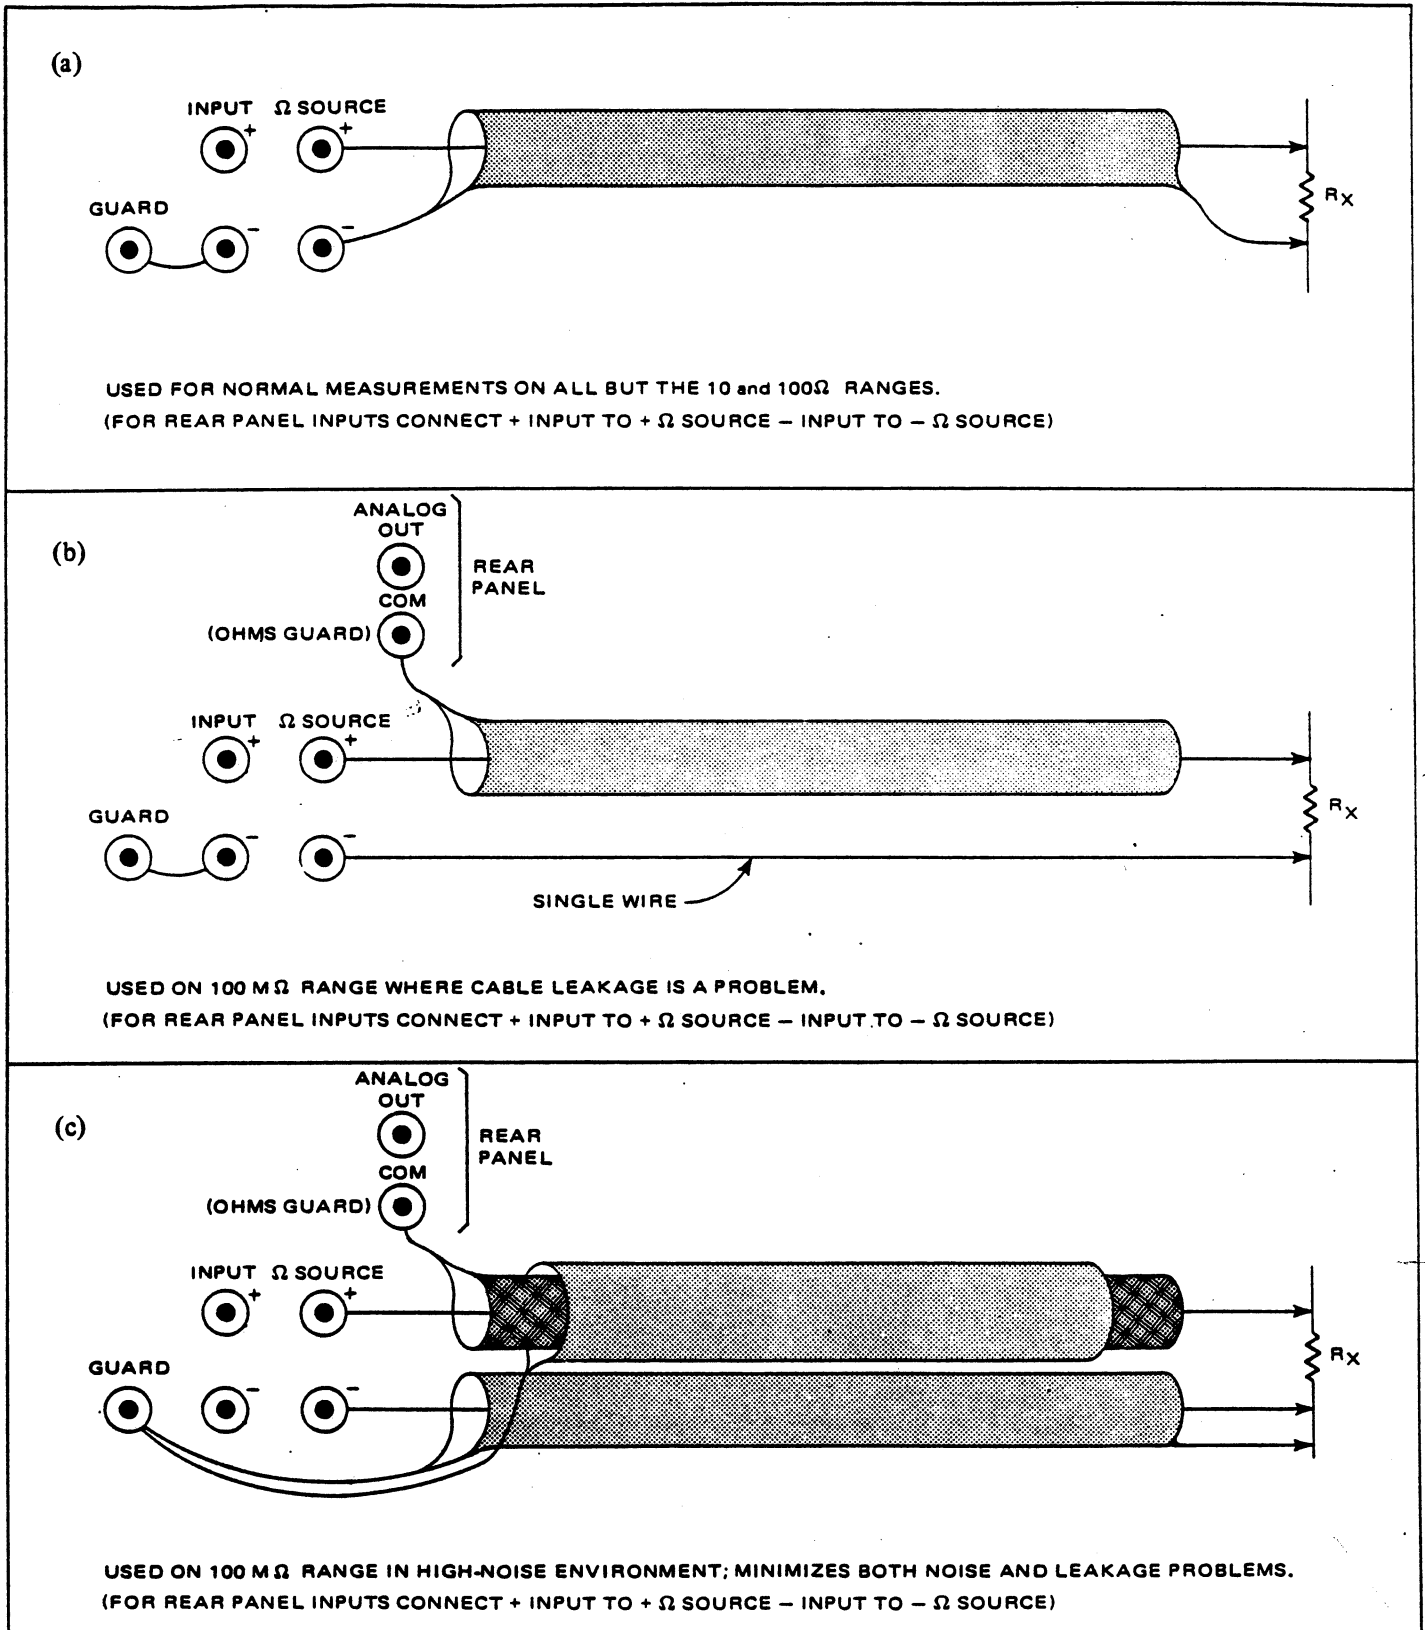

Figure 3.4 - Two Wire Ohms Measurements
a. Connections for a simple two-wire shielded ohms measurement are shown in Figure 3.4. It consists simply of a single-conductor shielded cable with the conductor serving as both the +  $\Omega$  SOURCE and + INPUT leads and the shield carrying -  $\Omega$  SOURCE and - INPUT. If front panel terminals are used, connections between + INPUT and +  $\Omega$  SOURCE, and - INPUT and -  $\Omega$  SOURCE can be made by setting the 2-WIRE/4-WIRE Switch to the 2-WIRE position. While reasonably accurate measurements can be made with this method, shunt leakage problems result from the parallel combinations of  $R_x$  and the cable impedance. This causes loss of accuracy, especially at high resistance (100 M $\Omega$  range). Also, lead resistance becomes a factor in the 1, 10 and 100 ohms ranges; the four wire measurement system is recommended for these ranges.